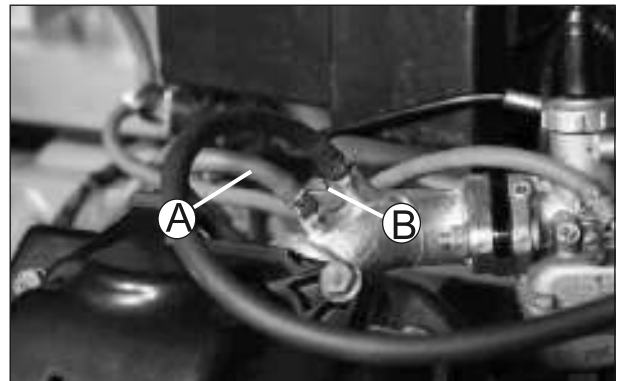

Fig. 4.38
- Dislocate the hose clip dia 7 to intake pipe (A) from hose air cut valve intake pipe (B) and pull out the hose air cut valve intake pipe from pipe intake complete. (Fig. 4.38)